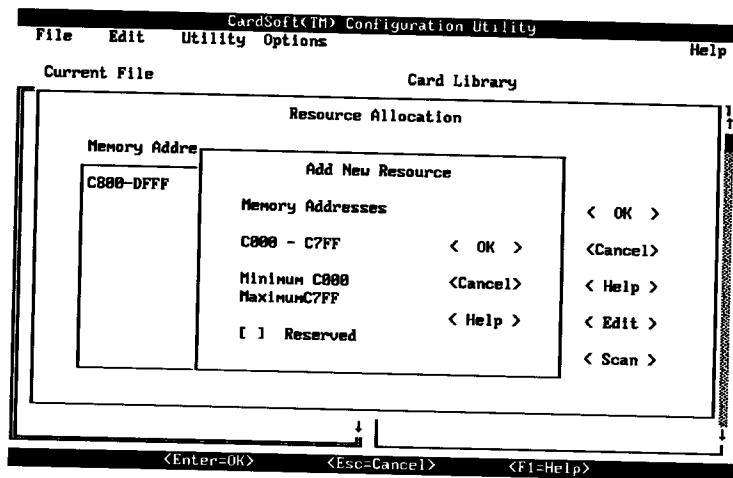

Figure 12 Add A New Resource Screen
- 4 Click on Insert (or press [Alt]+I) to insert a resource before the item you highlighted in Step 1, or click on Append (or press [Alt]+A) to add a resource after the item you highlighted in Step 1. For example, if you highlighted 3E0-3EF in the IO Ports list box, and you want to add the range 3F0-3F7, select Append; if you want to add the range 3C0-3CF, click on Insert. The Add New Resource dialog box appears as shown in Figure 12.